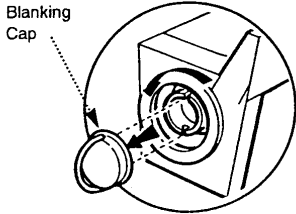
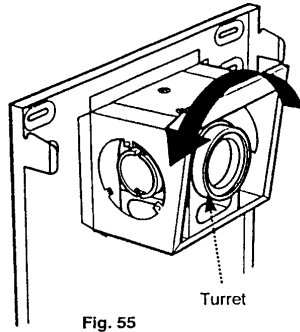

Fig. 55a
Fig. 55
2. Rotate the turret to face the selected opening (Fig. 55) and remove the side blanking cap by pushing in and turning anti-clockwise to release the bayonet fitting (Fig. 55a).